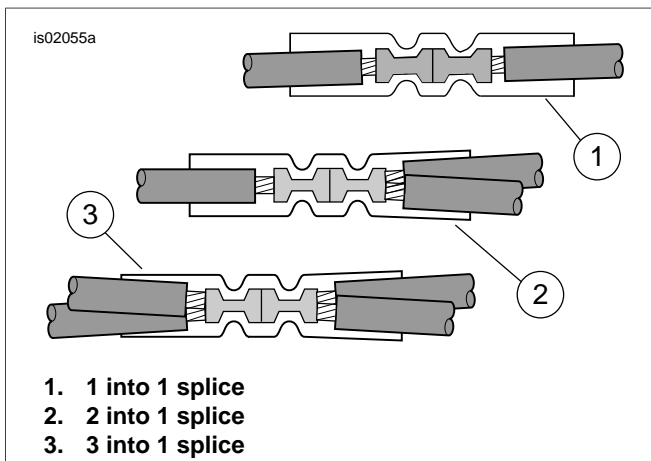

Figure 15. Splice Configurations
3. See Figure 15, the 2 into 1 splice configuration. Use a **red** sealed splice connector (Figure 27, Item 4) from the kit to splice the black garage door opener transmitter wire to the **black** wires from the headlamp. Trim back the transmitter wire harness casing as needed to assist splicing.
1. See Figure 15, the 2 into 1 splice configuration. Use a **red** sealed splice connector (Figure 27, Item 4) from the kit to splice the black wire (13) from the kit to the black transmitter ground wire according to the instructions in the service manual appendix.
4. See Figure 15, the 2 into 1 splice configuration. Use a **red** sealed splice connector (Figure 27, Item 4) from the kit to splice the garage door opener wire harness power lead to the main harness orange/white wires per the instructions in the service manual appendix.
6. See Figure 15, the 1 into 1 splice configuration. Use a **blue** sealed splice connector (Figure 27, Item 5) from the kit to splice the garage door opener wire harness power lead to the adapter wire per the instructions in the service manual appendix.
3. See Figure 15, the 2 into 1 splice configuration. Use a **red** sealed splice connector (Figure 27, Item 4) from the kit to splice the garage door opener wire harness power lead to the cut orange/white wires per the instructions in the service manual appendix.